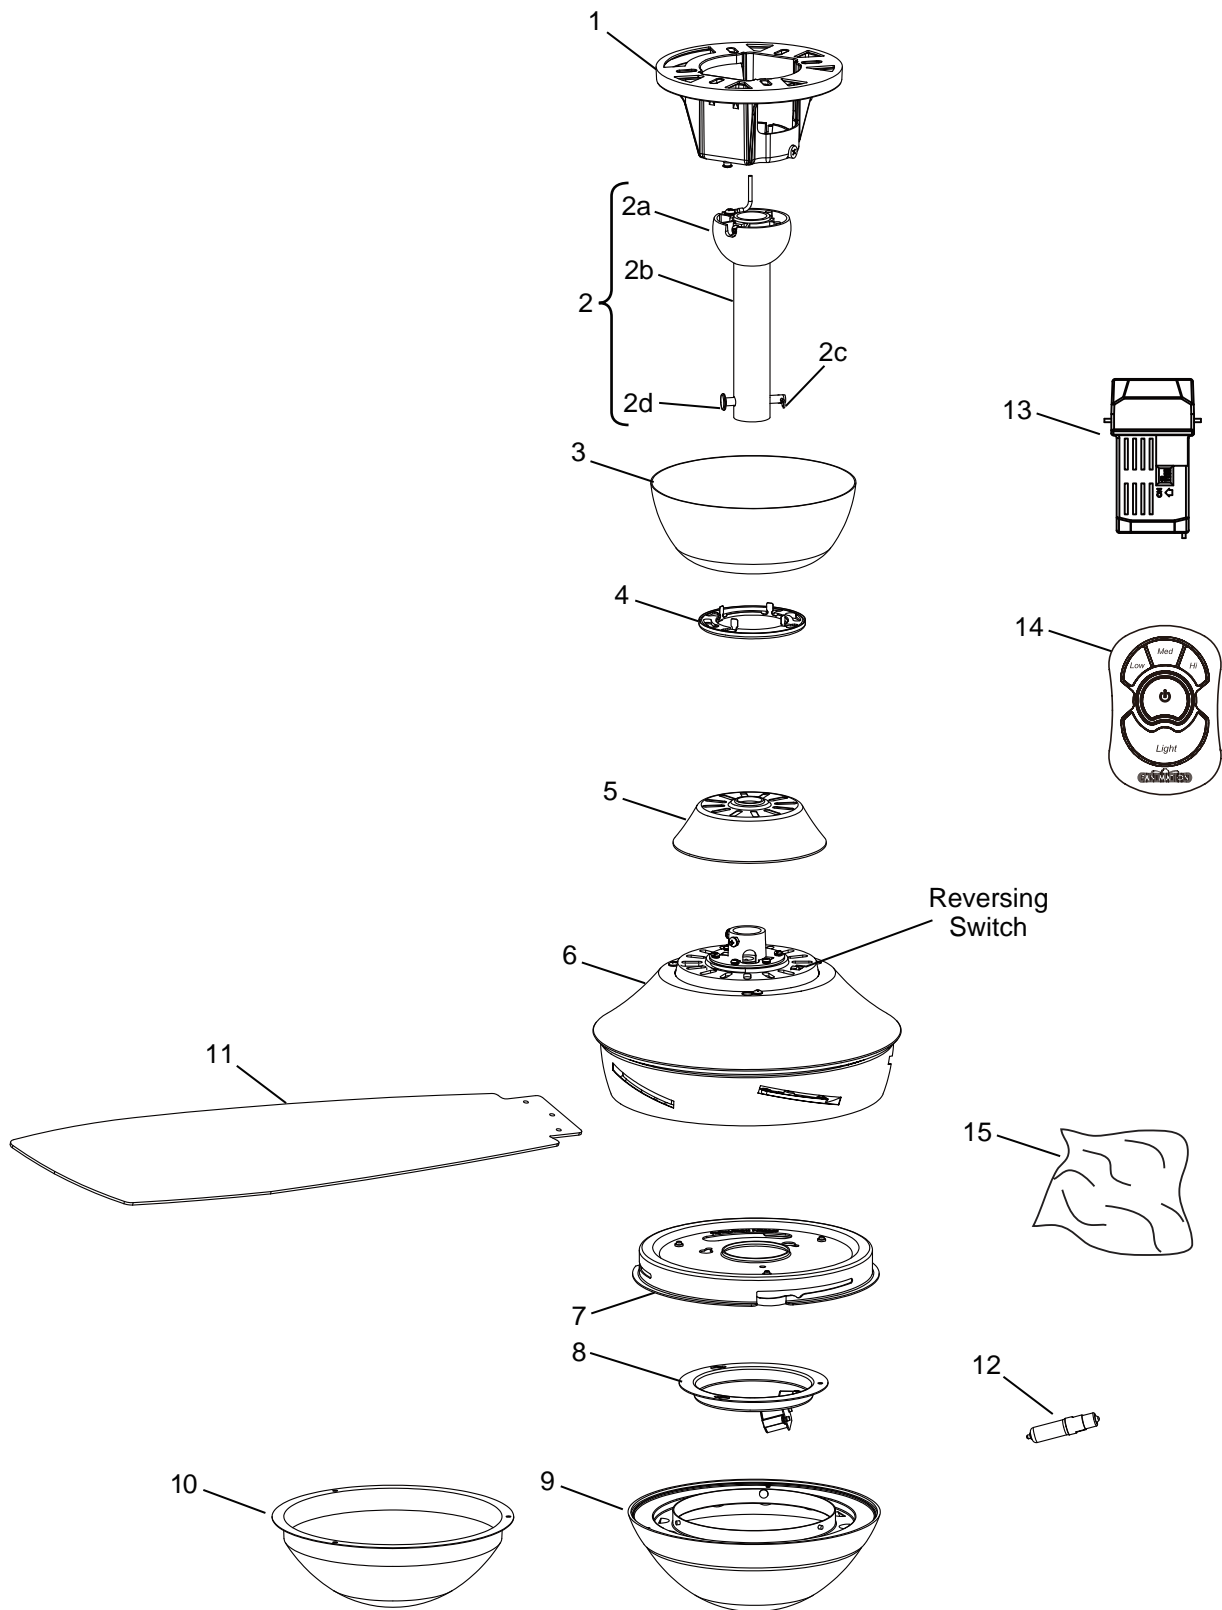

Figure 1
1. Loosen three screws and remove one screw from support flange. (Figure 1).
1. Do not install light bulbs. (Figure 1)